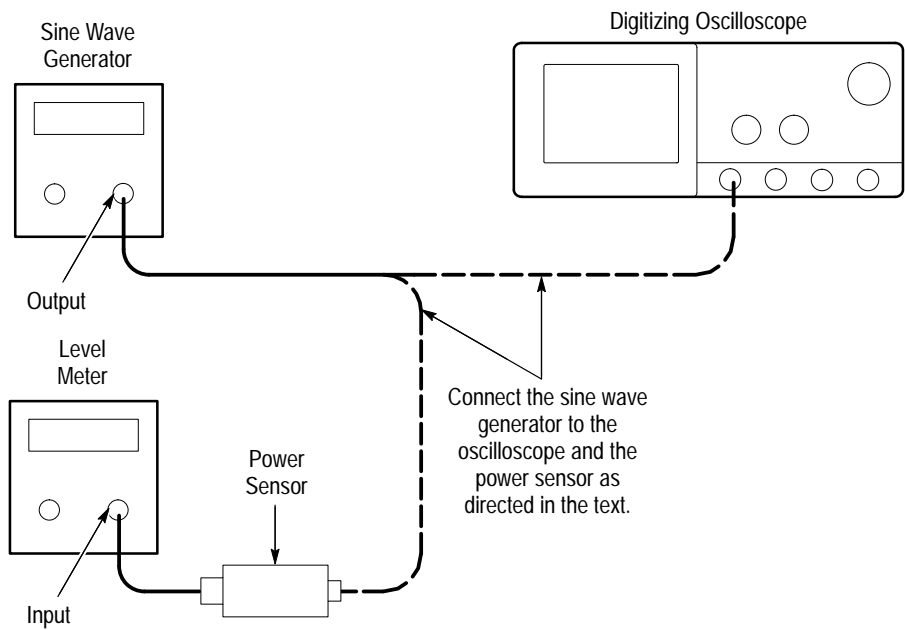

Figure 1–42: Equipment Setup for Maximum Amplitude
1. *Install the test hookup:* Connect the equipment as shown in Figure 1–42 (start with the sine wave generator connected to the digitizing oscilloscope).